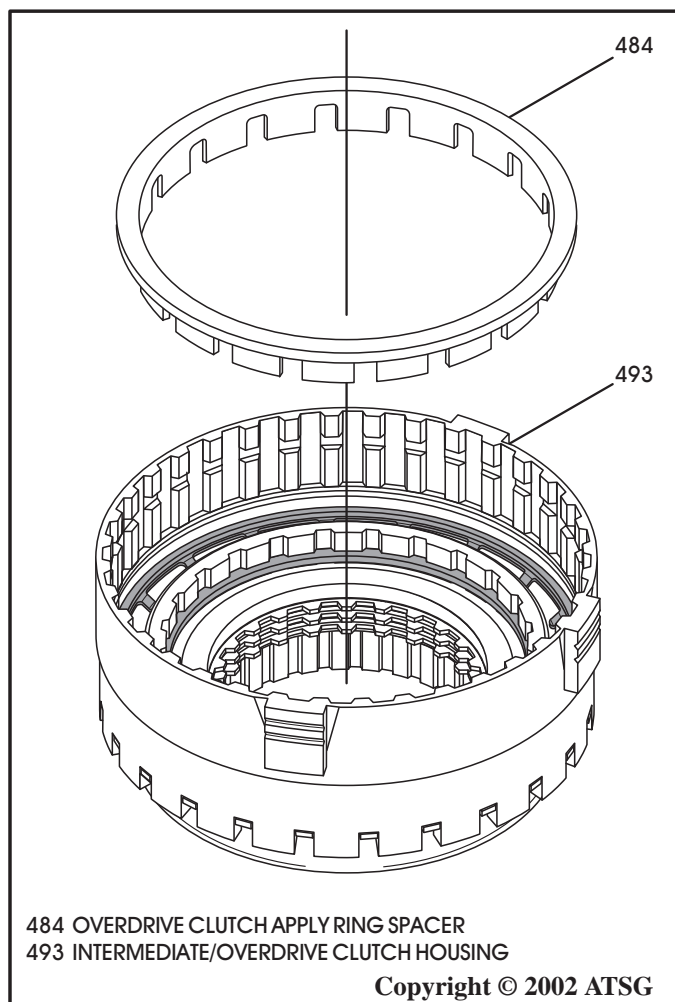

Figure 125
19. Install the overdrive clutch apply ring spacer, as shown in Figure 125.